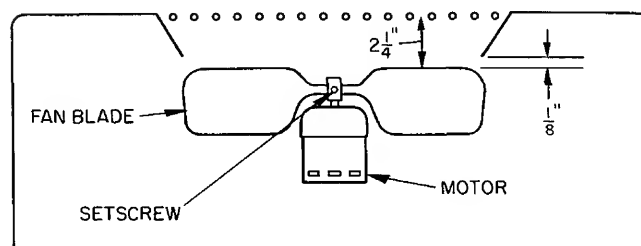

Fig. 11 — Condenser Fan Position
**Metal Fan** — Required fan position is shown in Fig. 11. Adjust fan by loosening setscrew and moving fan blades up or down.